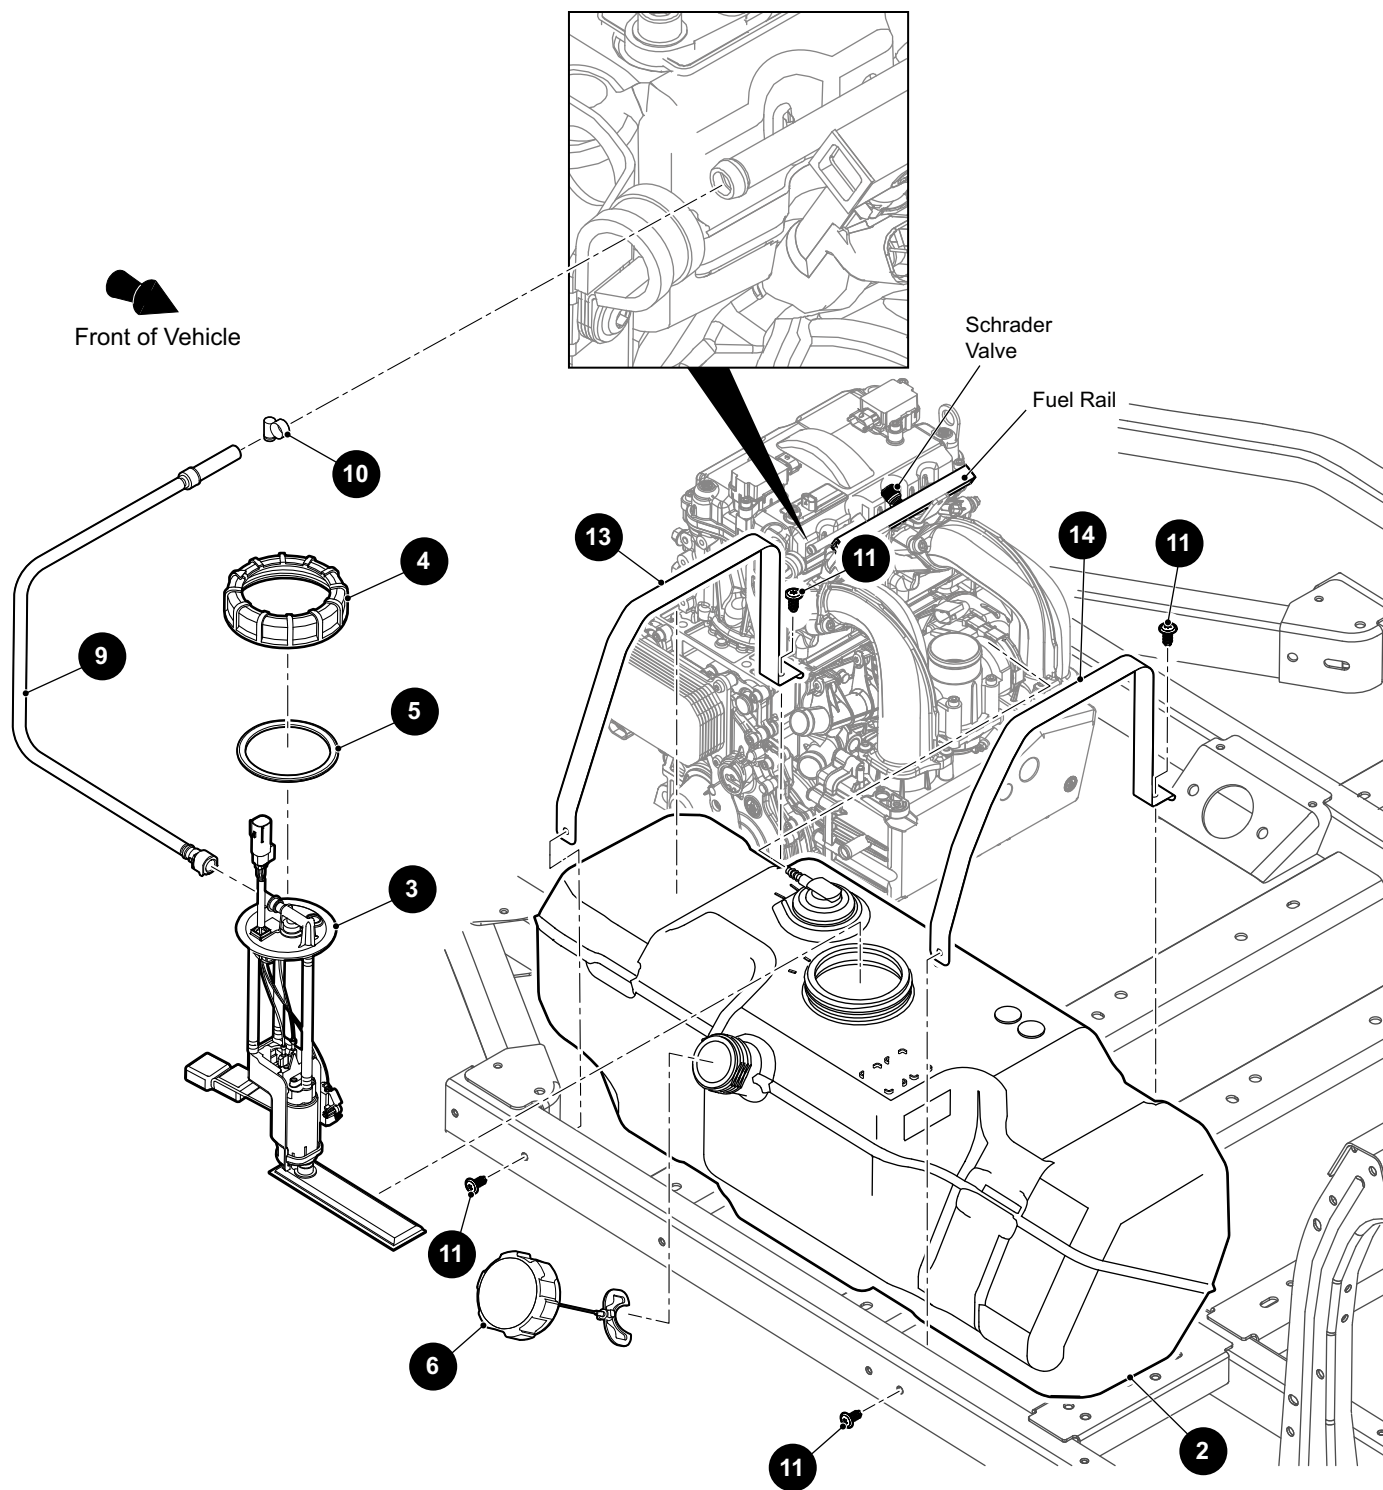

Fig. 1 Fuel System Components
An electric fuel pump (3) supplies fuel from the fuel tank (2) to the engine injection system through the fuel line (9) (See Fig. 1). The fuel filter is located in the fuel tank along with the fuel pump.
The fuel tank (2), fuel line (9), vent tube (12) and fuel tank cap (6) should be checked frequently for leaks, clogs or damage (See Fig. 1).
The fuel pressure can be checked with a fuel pressure gauge at the schrader valve on the fuel rail (Ref. Fig. 1). The pressure should read between 56 and 60 psi.